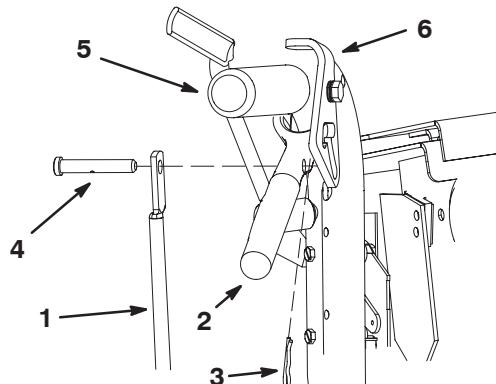

Figure 7
- Place the clevis pin into the upper part of the control rods, drive lever and neutral/parking brake locks (Fig. 7).
- Install the hairpin cotter pins between the drive levers and neutral/parking brake locks and into the clevis pins (Fig. 7).